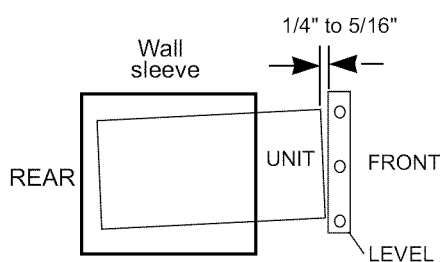

Fig. 1
- When installation is complete, replacement unit **MUST** have a rearward slope as shown in Fig. 1.